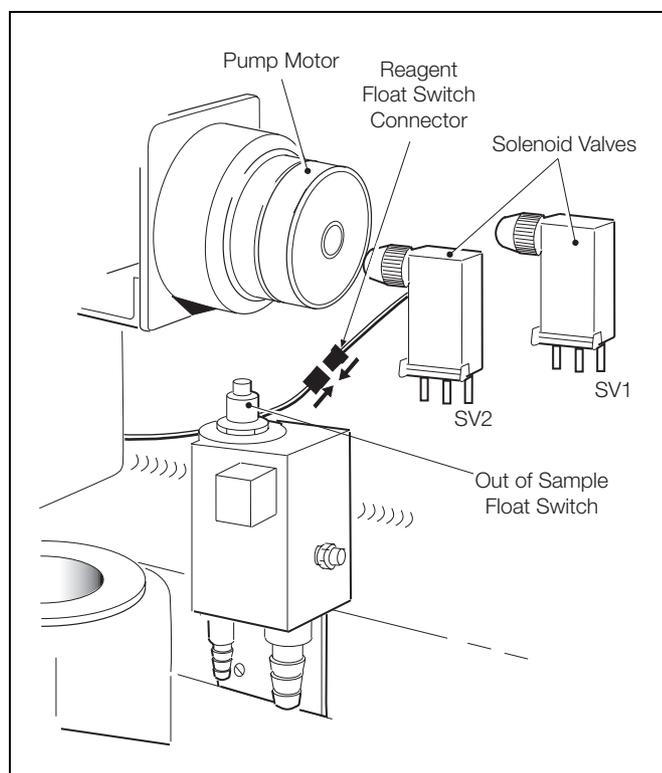

Fig. 3.1 Reagent Float Switch Connector
3. Connect the reagent float switch to the plug (Fig. 3.1) routing the lead through the far left hand grommated hole in the bottom of the enclosure.